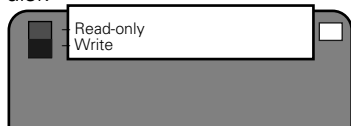

Figure 2: Write tab position
1. Insert the disk into the disk drive on the right side of the control module. The write-protect tab must be closed. See *Figure 2*.